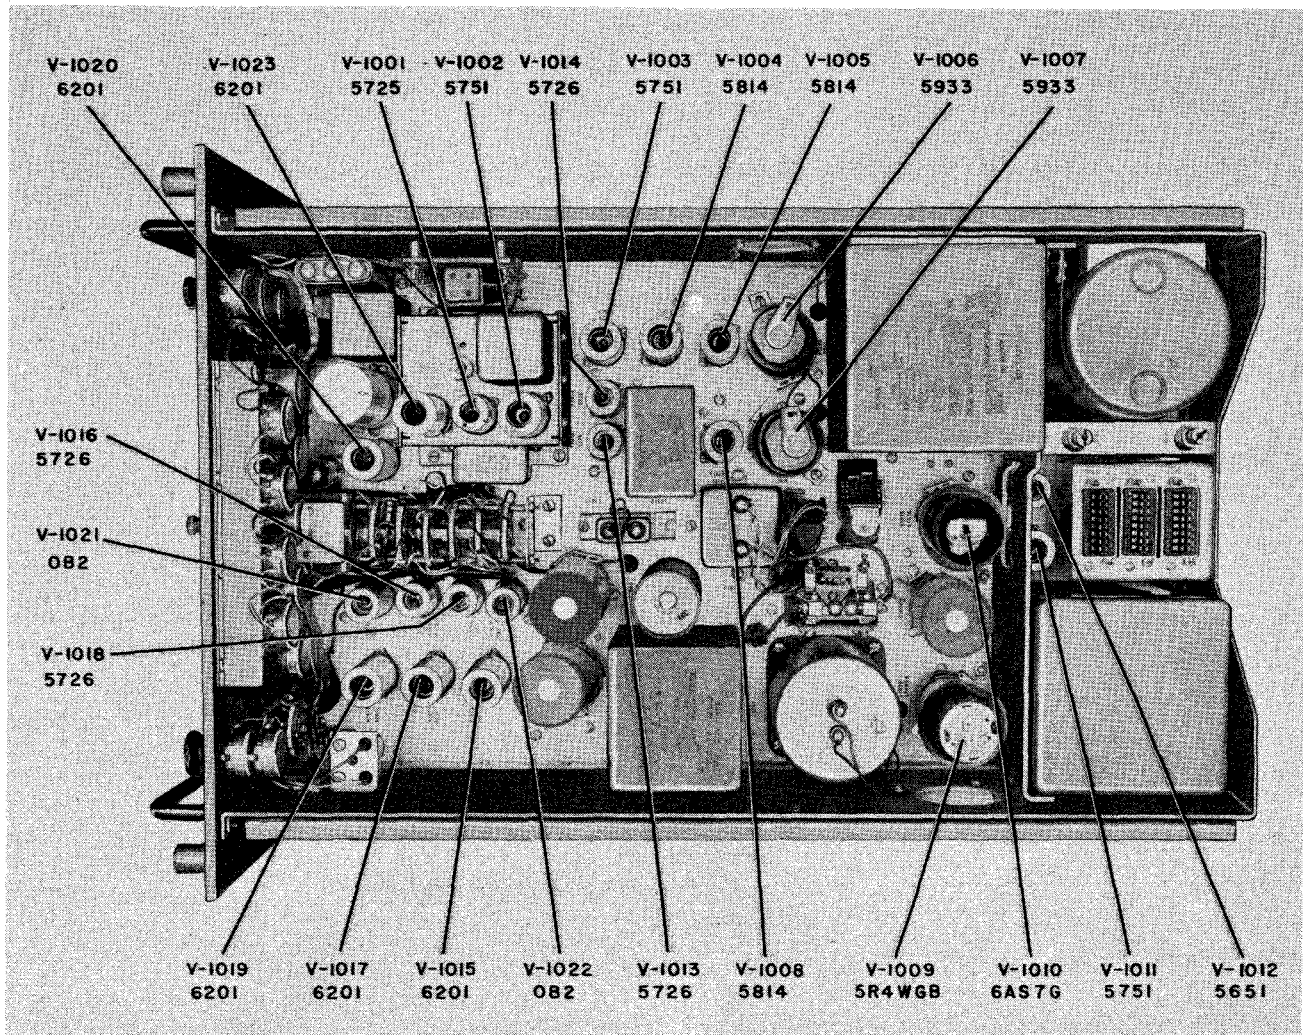

Figure 5-6. Radio Modulator MD-229/SRT (LLRM), Top View, Tube Locations
2.	Radio Modulator MD-229/SRT (LLRM). See figure 5-6.)